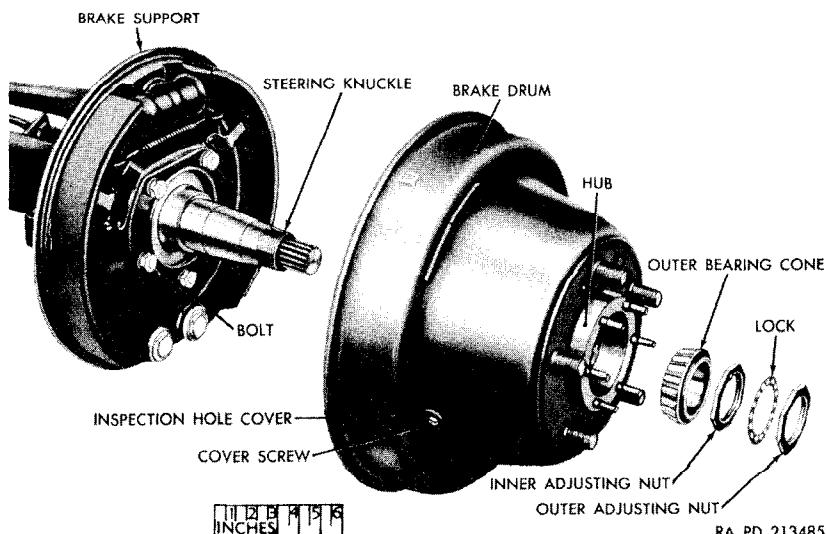

Figure 173. Front wheel hub and drum and related parts—exploded view.
- (4) Pull the hub and brake drum part way off the steering knuckle to free the outer bearing cone, remove the cone, the hub, and brake drum (fig. 173).
- (2) Remove the five bolts and lockwashers that secure the brake support and steering knuckle to the steering knuckle flange. Remove the brake support (fig. 173).
- (2) Fit the male half of the universal drive joint on the inner shaft and insert the shaft into the axle housing, engaging the splined end of the shaft in the differential gear.
- (3) Fit the female half of the universal drive joint on the outer shaft and insert the shaft through the steering knuckle. Engage the female half of the universal drive joint with the male half and position the steering knuckle on the knuckle flange (flat side up), alining the bolt holes. Tap the steering knuckle into place with a plastic hammer.
- (4) Position the brake support over the steering knuckle (fig. 173), alining the bolt holes in the support with those in the knuckle and flange. Install the five $\frac{1}{2}$ -inch lockwashers and $\frac{1}{2}$ -13NC \times $1\frac{1}{2}$ bolts. Tighten the bolts to 80–85 pound-feet torque.
- (5) Clean the contacting surfaces of the brake line inlet connection and the wheel cylinder, and position the connection on the cylinder. Install the bolt gasket and the bolt. Tighten the bolt.
- b. Install Hub and Drum (fig. 173).*
- (1) Apply a light film of grease to the inside of the hub and the steering knuckle to prevent rust.
- (2) Install the assembled hub and brake drum on the steering knuckle.
- (3) Lubricate the outer bearing cone with automotive and artillery grease, using a roller bearing lubricator or kneading the grease into the bearing with the fingers. Do not over-lubricate. Install the cone on the steering knuckle, and install the inner bearing adjusting nut with the lock pin toward the outside. Screw the nut on the steering knuckle, using the